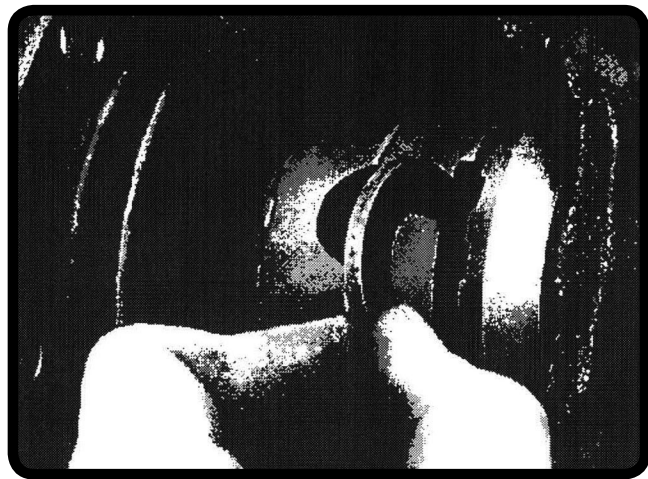

Figure 5
- b) **Place the other driver assembly** in the differential case. Push it to the **left**, touching the other driver (**Figure 5**).
- f) **Slide the other C-Clip** through the recess in the teeth and into the groove in the axle shaft end (**Figure 5**).